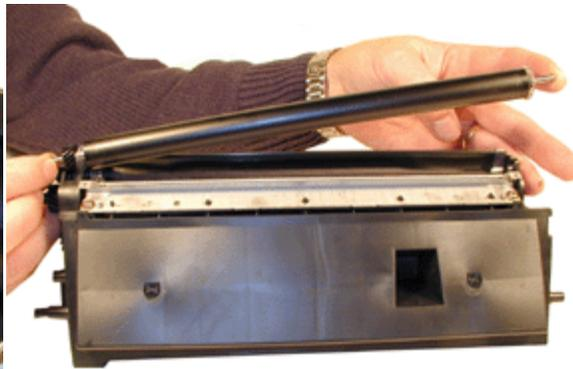

FIGURE 20
16. Remove the developer roller. Be careful when handling the roller as it has a sleeve around it that is easily damaged. We have found it best to handle the roller by the metal shaft only. Do not touch the sleeve with your skin. See Figure 20.